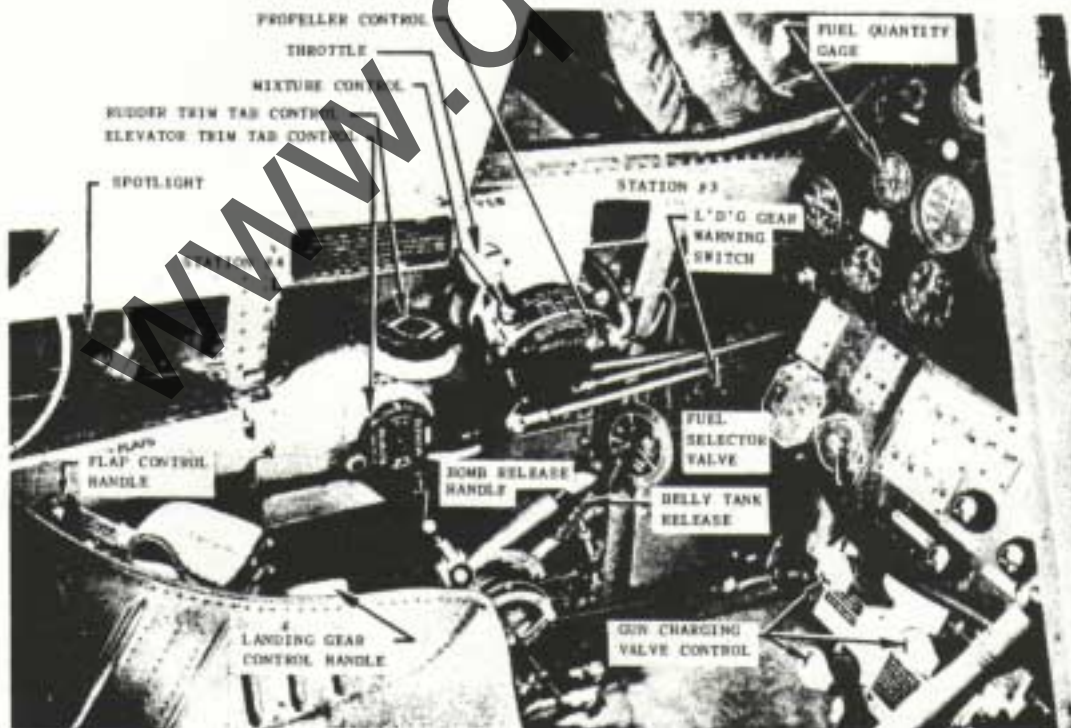

Figure 8 - Cockpit - Left Side
(2) Aileron and Elevator. - Conventional control stick, equipped with a thumb-operated hydraulic system "OFF-ON" button on the top of the grip, and a squeeze type machine gun trigger lever on the front side of the grip.
(3) Rudder Control. - Conventional pedals and toe-operated brakes. Each rudder pedal may be adjusted to desirable length by first pushing inboard on the spring-loaded adjustment lock which permits the pedal to float free on its hinge. After moving pedal to desired location, release lock and juggle pedal slightly to allow locking pin to snap into position. ALWAYS ADJUST BOTH PEDALS TO THE SAME LENGTH.
(4) Elevator Trim Tab Control. - The trim tab is actuated by a round control knob (figure 8) on the left side of the cockpit. The knob has calibration marks around its outer circumference. Rotating the knob clockwise (forward) puts the airplane nose down.
(5) Rudder Trim Tab Control. - The rudder tab is actuated by a round control knob (figure 8) on the left side of the cockpit. Rotating it to the left (counter-clockwise) turns the nose of the airplane to the left.
(a) Gear Down. - The landing gear may be lowered (WHEN THE IAS IS 175 MPH OR LESS) by pulling the safety latch bolt on the landing gear lever (figure 8) forward, and lowering the handle to its "DOWN" position. Press the hydraulic control switch button on top of the control stick until a few seconds after the indicator (figure 10) shows the gear to be down and locked in place. As a final check, operate the hand pump (figure 9) and if a high pressure is required to move it, the gear is down. If the landing gear warning horn fails to sound when the throttle lever (figure 8) is closed, the landing gear locks are definitely in place. RETURN THE CONTROL LEVER (FIGURE 8) TO "NEUTRAL". The safety latch bolt prevents the accidental raising of the handle beyond the neutral position.
(b) Gear Up. - The gear may be raised at any speed. Pull the safety latch bolt on the landing gear control lever (figure 8) forward, and raise the handle to its "UP" position. Press the hydraulic switch button on the top of the control stick until the indicator (figure 10) on the instrument panel shows the gear completely up. RETURN CONTROL HANDLE (FIGURE 8) TO "NEUTRAL" AFTER GEAR IS RETRACTED.
(a) Flaps Down. - Move flap control lever (figure 8) to "DOWN" position. Press button on top of control stick until a second or two after indicator shows flaps are down. If a high pressure is required to move the auxiliary hand pump, the wing flaps are fully extended. RETURN FLAP CONTROL HANDLE TO "NEUTRAL" AFTER EXTENSION.
(12) Fuel Tank Gages. - Gages are direct visual reading gages. It is not necessary to operate any switch to place them in operation.
(13) Fuel Selector Valve. - Conventional. (See figure 8.)
(4) Propeller Control. - Whenever the airplane is being operated, the safety switch (figure 10) should be "ON." When the switch opens due to overload, it may be reset by placing it in the "OFF" position and then returning it to the "ON" position. Propeller pitch may be changed independently of the rest of the propeller control system by holding the three-way toggle switch (figure 10) in either the "INC. RPM" or "DEC. RPM" position until the desired rpm is obtained. The automatic constant speed control may be used by placing the switch in the "AUTO" position and setting the propeller governor control lever (figure 8) to the required rpm.
- (3) Landing gear control handle (figure 8) in neutral.
(4) Flap control handle (figure 8) in neutral.
(6) See that controls are FREE.
(7) Turn ignition switch to "BAT."
(8) Fuel selector (figure 8) on "RES." Do not turn selector valve to "BELLY" if the belly tank is not installed.
(12) Throttle (figure 8) wide open.
(13) Mixture control on "IDLE CUT-OFF."
e. With mixture control (figure 8) in "IDLE CUT-OFF" position and the throttle wide open, operate the electric fuel pump switch (figure 10) to obtain 16 pounds per square inch.
c. Set propeller governor control (figure 8) at 2800 rpm and then set propeller selector switch (figure 10) to "AUTO."